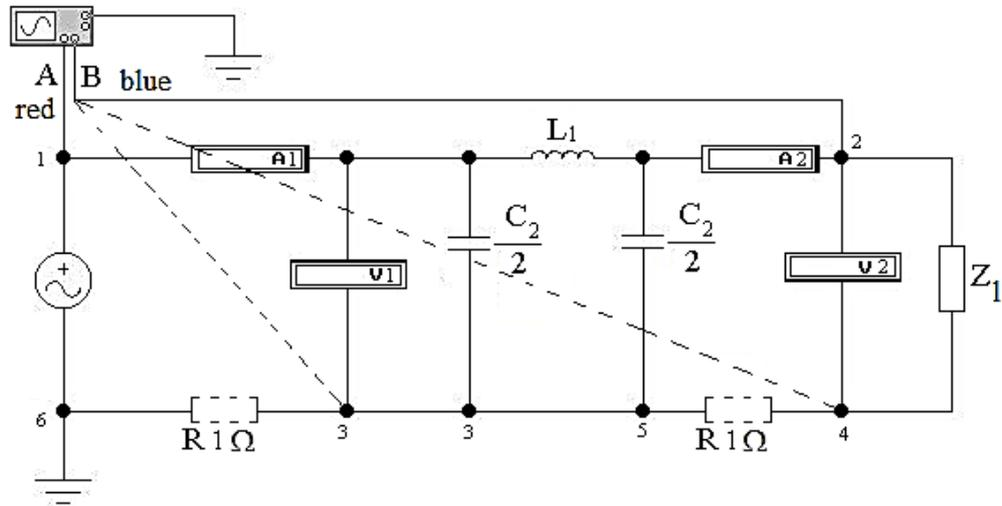

Figure 5.1
5.2.1 Assemble the electrical circuit by scheme in figure 5.1.